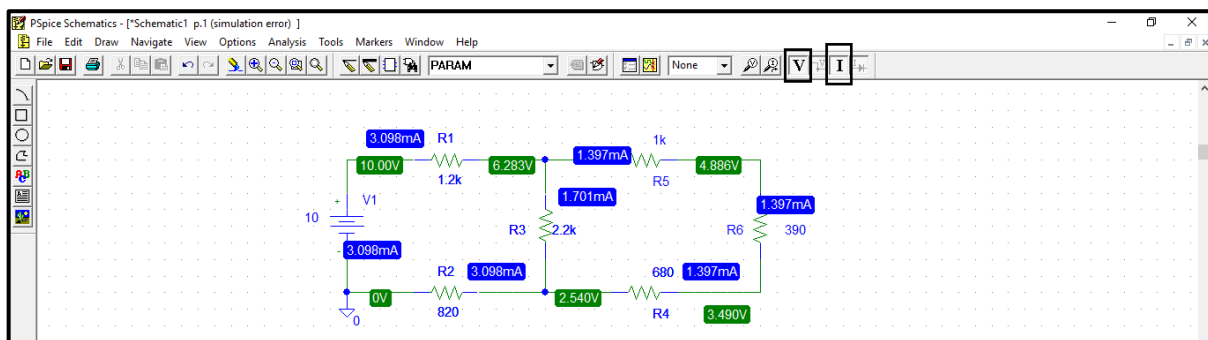

Figure.11
- Return to the schematics window and click on “V” and “I” buttons shown in figure.11. By clicking on these buttons, PSPICE displays the voltage on each node “with respect to ground” and the current on each branch.